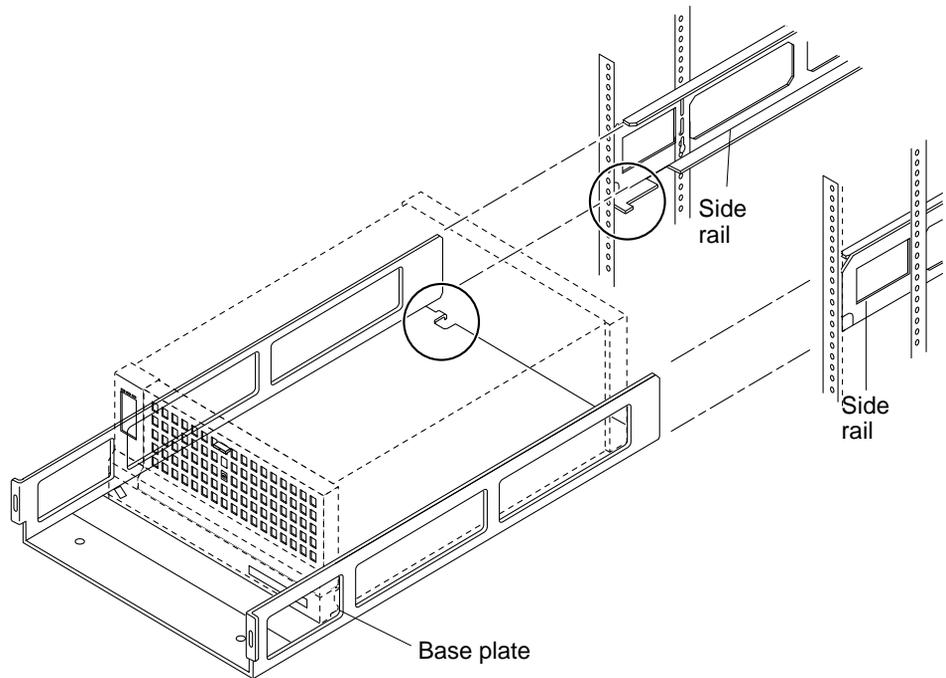

FIGURE 4-2 Aligning the Chassis and Baseplate With the Side Rails
2. **Align the chassis baseplate with the mating side rails in the rack (FIGURE 4-2).**